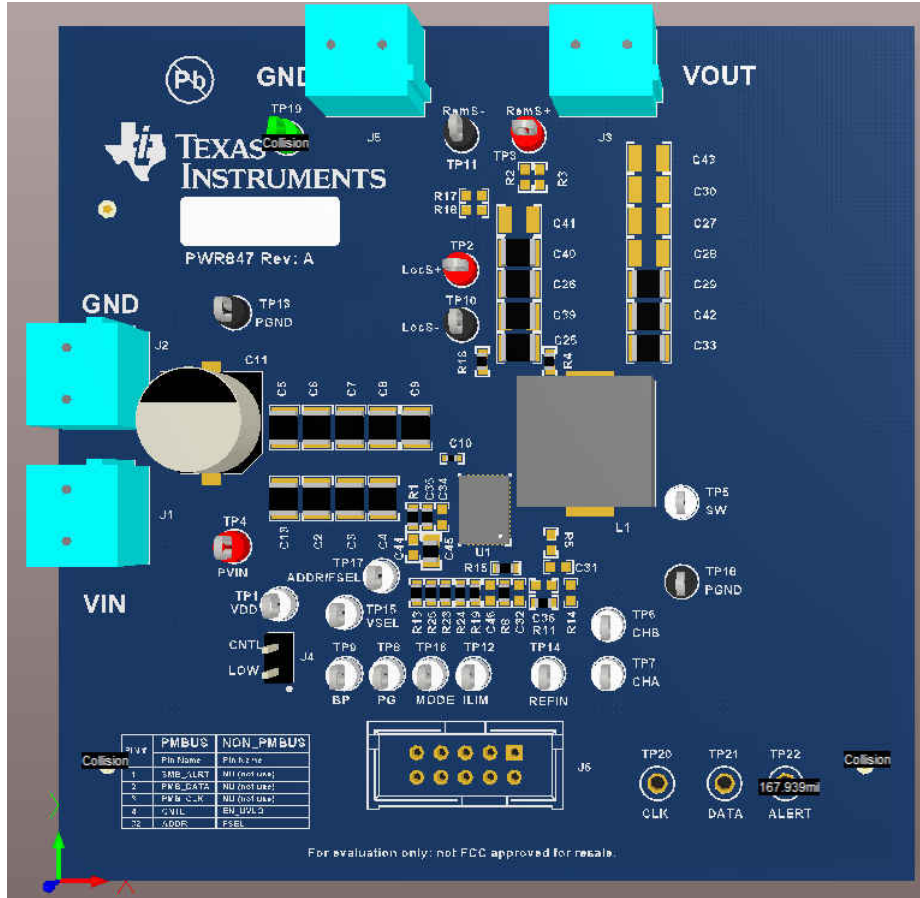

Figure 6-1. PWR-847EVM Overview
Multimeters: It is recommended to use two separate multimeters Figure 6-1. One meter is used to measure V_{IN} and one to measure V_{OUT} .
Output Load: A variable electronic load is recommended for testing Figure 6-1. It must be capable of 25 A at voltages as low as 0.6 V.
1. Connect V_{OUT} to J3 and V_{OUT_GND} to J5 Figure 6-1.
4. Connect V_{IN} to J1 and V_{IN_GND} to J2 Figure 6-1.